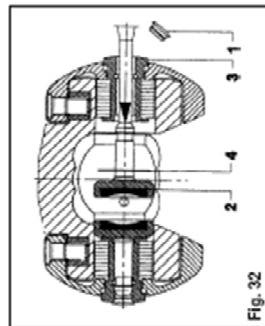

Fig. 32
- 2) Remove protective caps (Fig. 32/Item 1) with the aid of a small screwdriver.
- 3) Press worn out pad inwards and remove (use punch and hammer) (Fig. 32/2).
- 4) Insert new friction pad from below (after first re-inserting shim washers if they were present) and press in as far as it will go (Fig. 32/Item 4 & Fig. 32a).